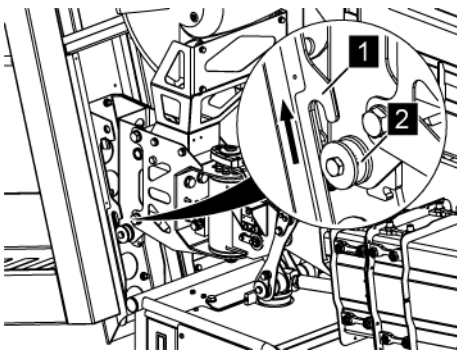

Fig. 155: Removing the working basket
8. → Working as a pair, tilt the working basket (Fig. 155/1) forwards a little and pull it out upwards from the holder (Fig. 155/2).